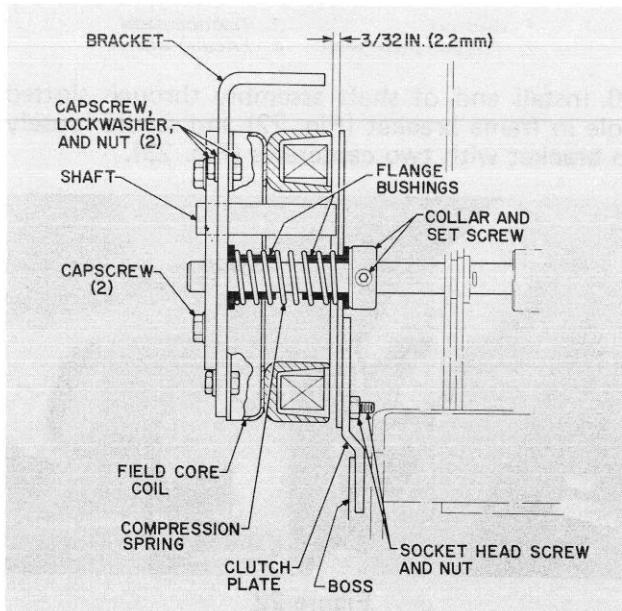

Figure 31
19. Position top of clutch plate so there is approximately $3/32$ in. (2.2 mm) between plate and coil (Fig. 31). Push collar against plate and secure with set screw (Fig. 31).
20. Check position of clutch plate with respect to traction pedal boss (Fig. 31). Plate should be centered on boss (Fig. 31). If not centered, loosen collar set screw and jam nuts securing shaft and re-position shaft. Tighten nuts and set screw to secure adjustment.